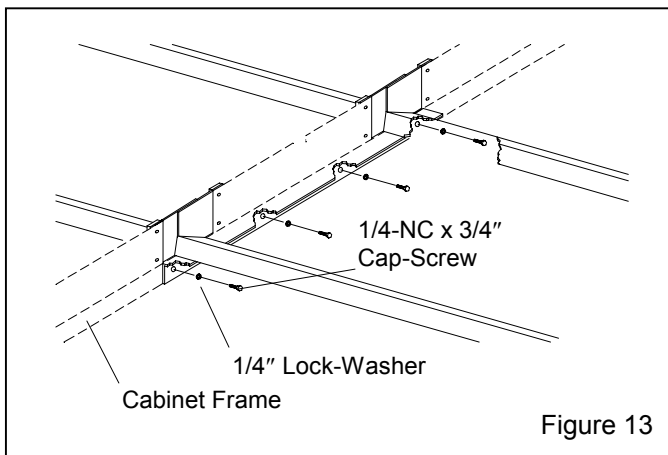

Figure 13
3.4.3.6 Realign the track assembly. Secure the end bracket with 1/4-NC x 3/4" cap-screws, lock-washers, and hex nuts. Secure the middle bracket using 1/4-NC x 3/4" cap-screws and lock-washers through the bracket, and into the cabinet frame as shown in Figure 13.